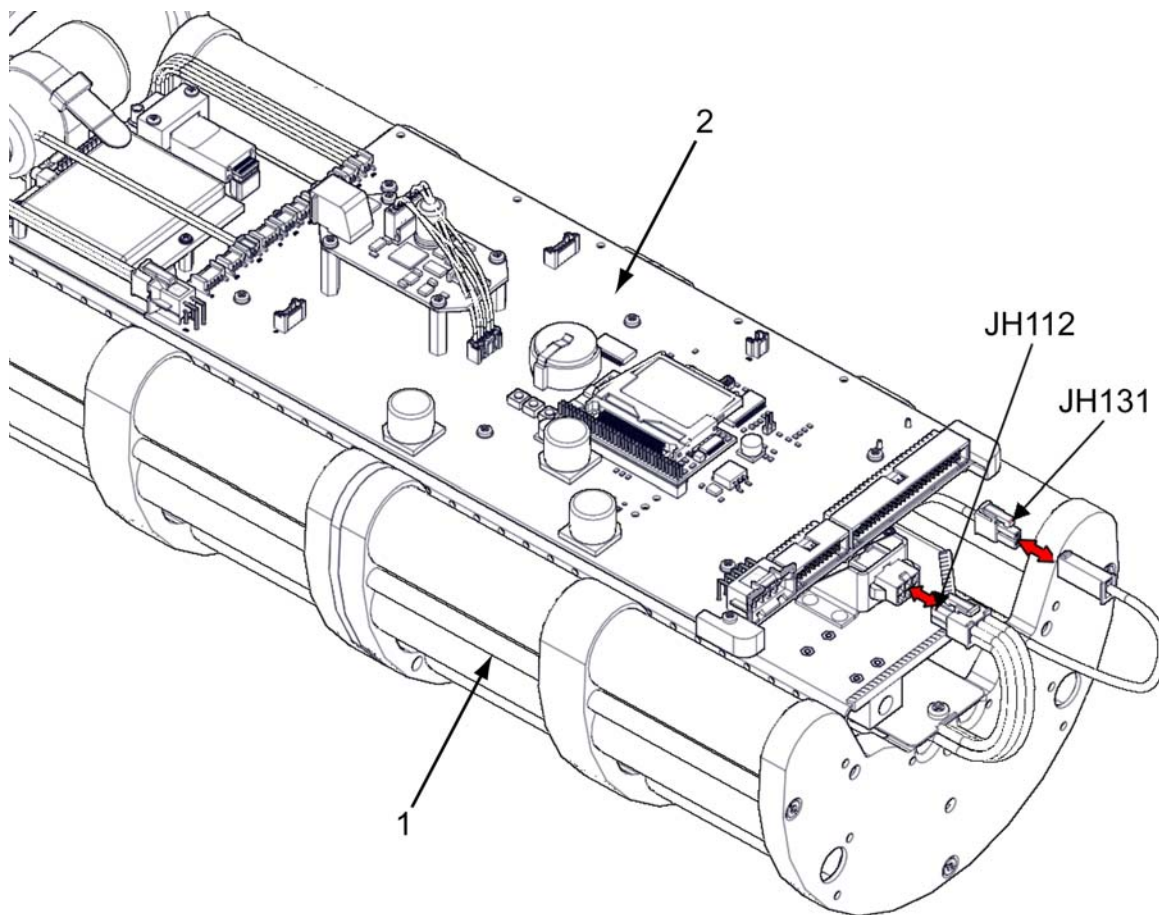

Figure 2-8 Aft glider battery pack.
5. Disconnect the JH112 connection on the aft battery (Figure 2-8, Item 1) from the aft electronics tray (Figure 2-8, Item 2).
6. Disconnect the JH131 connection on the aft battery (Figure 2-8, Item 1) from the aft electronics tray (Figure 2-8, Item 2).
1. Position the aft battery and connect the JH131 and JH112 from the aft battery (Figure 2-8, Item 1) to the aft electronics tray (Figure 2-8, Item 2).